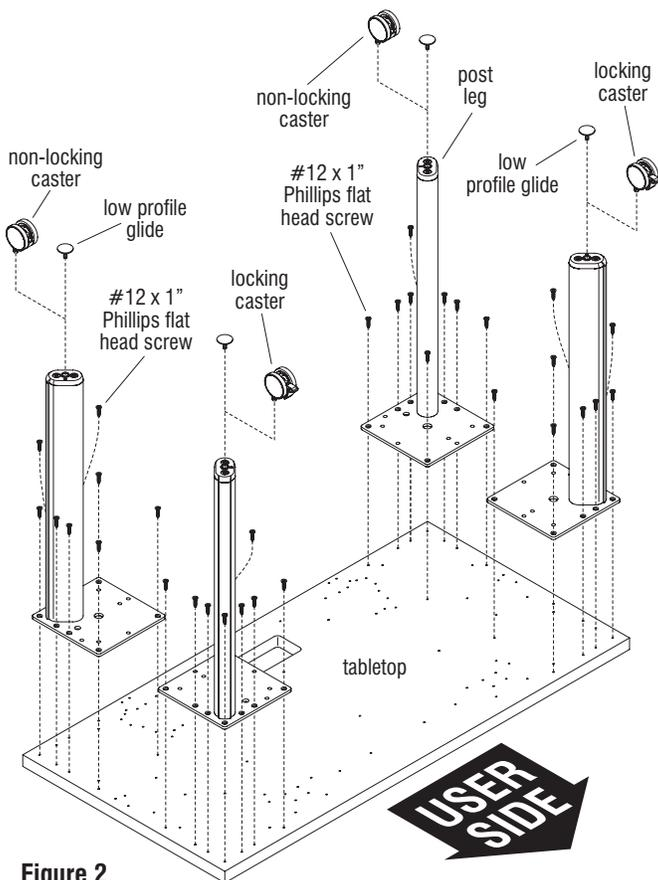

Figure 2
4. Position each post leg over pre-drilled mounting holes in the underside of the tabletop as illustrated. Secure the post legs to the top using eight #12 x 1" Phillips flat head screws through each post-leg mounting plate (Figure 2).